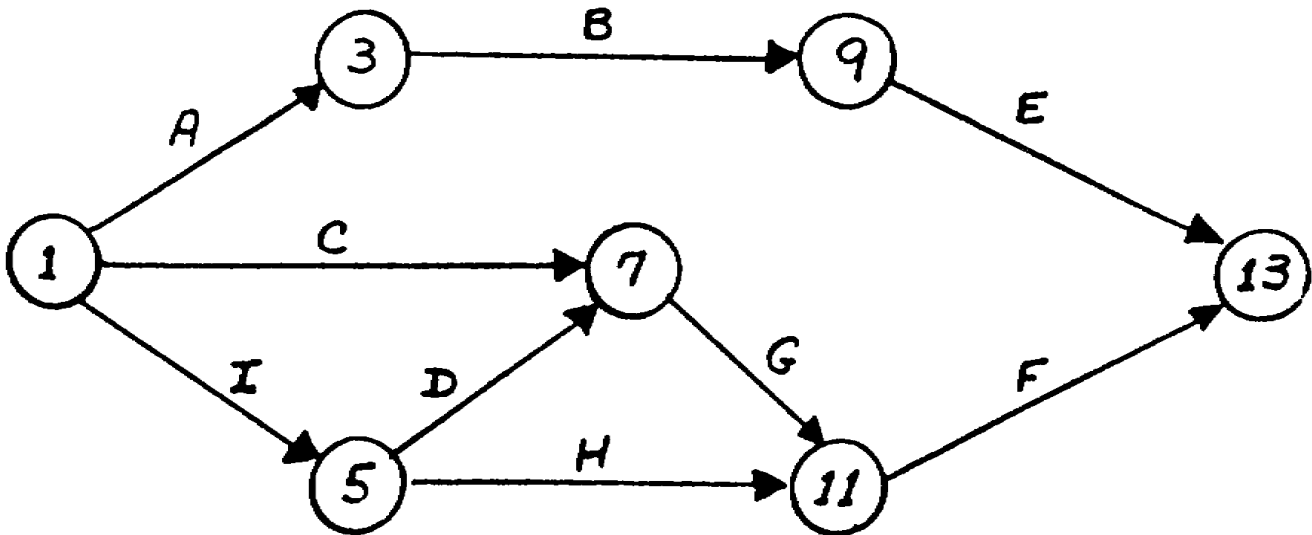

Figure 2-2. For use with exercises 8 through 11.
8. With regard to the CPM network in figure 2-2, which of the following is correct?
9. Which of the following is a correct statement about the CPM network in figure 2-2?
10. Which of the following is a correct statement about the CPM network in figure 2-2?
11. When two activity arrows converge upon an event (C and D converge on event 7 in figure 2-2), we know that